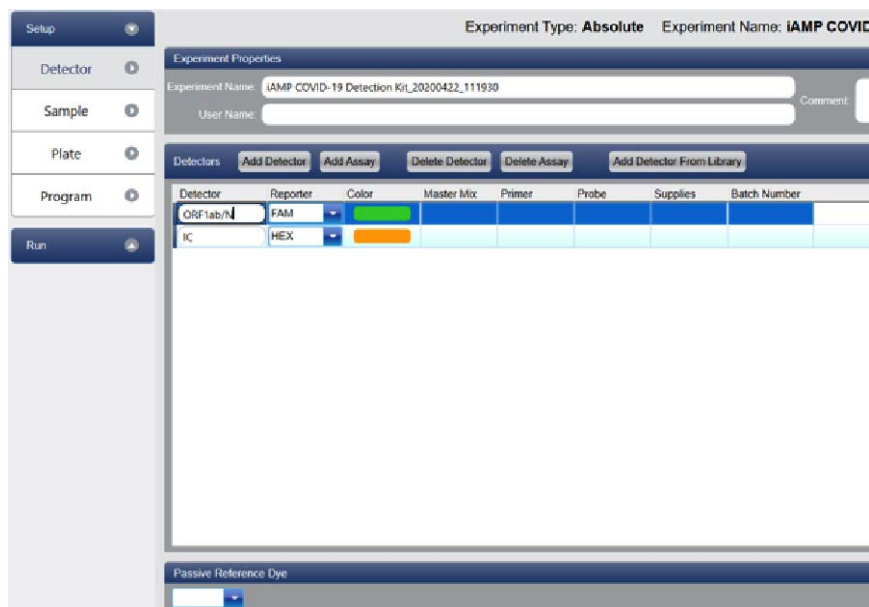

Figure 7. Detector setup.
- Setup Detector as shown in Figure 7.